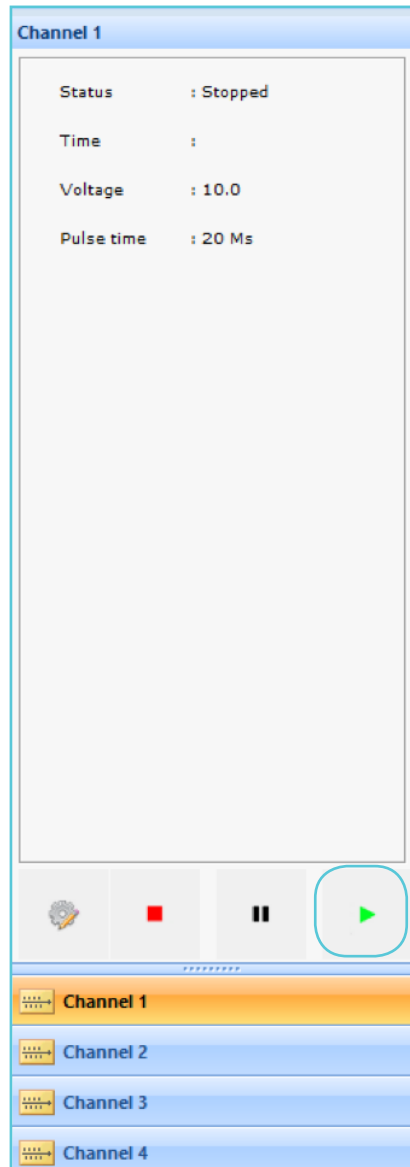

Figure 4.1.8 Play Button for Channel 1
2. Start a stimulation protocol for only one specific channel by clicking on e.g. Channel 1 which lights up in orange followed by clicking on the small 'Play button' arrow in the Channel status window as encircled and shown in figure 4.1.8.